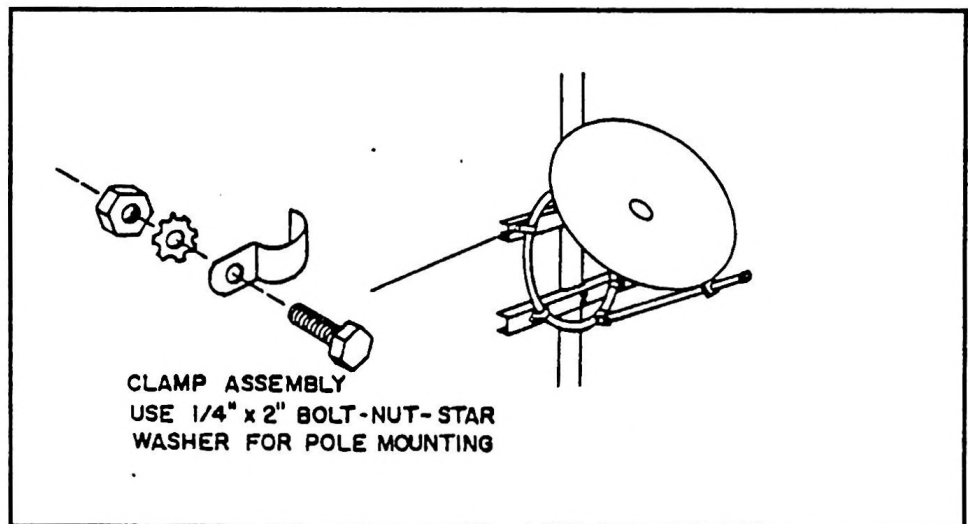

Figure 4-6. Pole Mount
2. Refer to Figure 4-6. Drill four holes in the pole cross members as shown. Drill two holes per member, 8 inches from the center of the pole.
3. Secure the mounting ring/reflector assembly to the cross members with clamps and bolts (Figure 4-6). Do not completely tighten the clamps as the ring must be adjusted later.